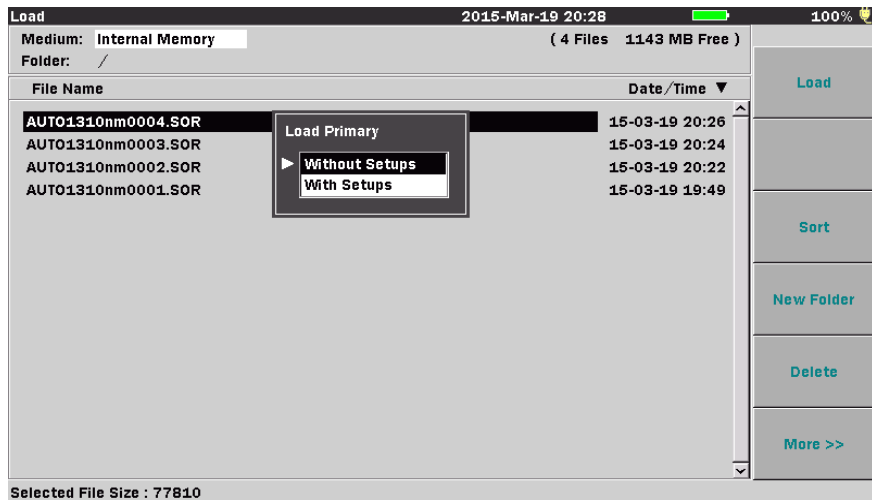

Figure 5-26: Load Primary Dialog box
3. Select **Load (f1)**, the Load Primary dialog box appears. See Figure 5-26 on page 5-62.